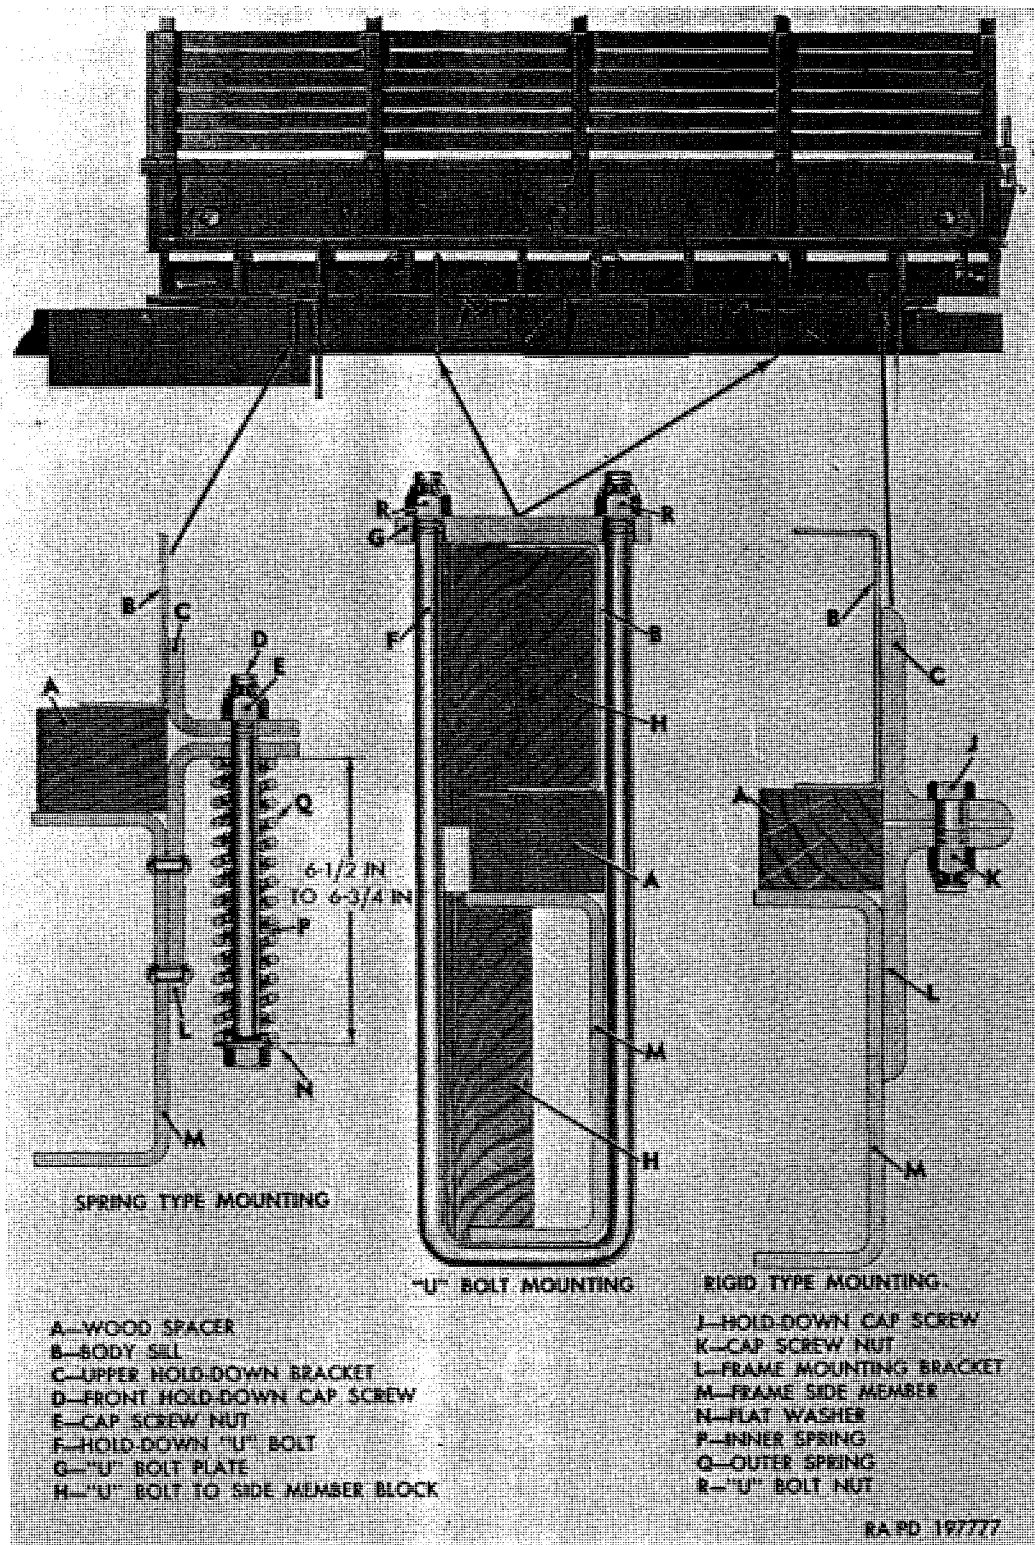

Figure 335. M211 cargo body mounting.
b. *M211 Cargo Body* (fig. 335). Body is mounted to frame side member. Dual spring-type mounting is used at each front corner of body. One rigid-type mounting is used on each side of body. Body is also secured to frame by two U bolts at each side.
- (a) On spring-type mounting, remove cap screw nut (E); then remove front holddown cap screw (D), inner and outer springs (P and Q), and flat washer (N).
- (b) On rigid-type mounting, remove cap screw nut (K) and holddown cap screw (J).
- (c) On U-bolt mountings, remove U-bolt nuts (R); then remove holddown U-bolts (F), blocks (H), and plate (G).
- (a) On spring-type mountings, position flat washer (N), inner spring (P), and outer spring (Q) on $\frac{5}{8}$ -18 x 9 front holddown cap screw (D). Position cap screw with springs through frame mounting and upper holddown brackets (L and C). Install cap screw nut (E) and draw down until overall length of springs is $6\frac{1}{2}$ to $6\frac{3}{4}$ inches.
- (b) On rigid-type mountings, position $\frac{3}{4}$ -16 x $2\frac{1}{4}$ holddown cap screws through frame mounting and upper holddown brackets (C and L). Install cap screw nuts (K) and tighten to 100 to 120 pound-feet torque.
- (c) On U-bolt mountings, position holddown U-bolt (F), U-bolt to side member blocks (H), and U-bolt plate (G) as shown in figure 335. U-bolt plate (G) must be placed with large diameter of the tapered hole against body sill (B). Install U-bolt nuts (R) and tighten to 90 to 100 pound-feet torque.